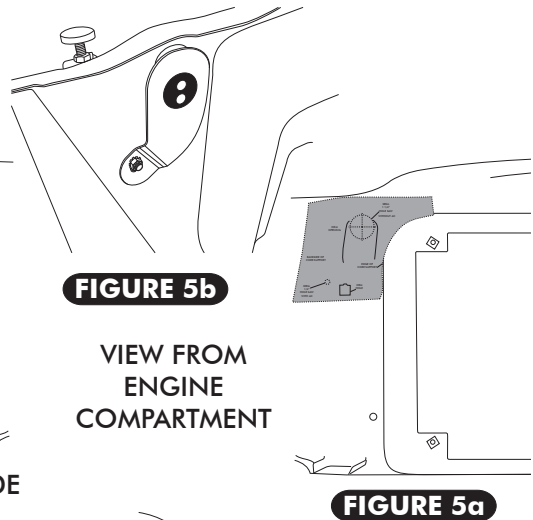

FIGURE 5b
- INSTALL GROMMET ON BRACKET AS SHOWN IN FIGURE 5b.